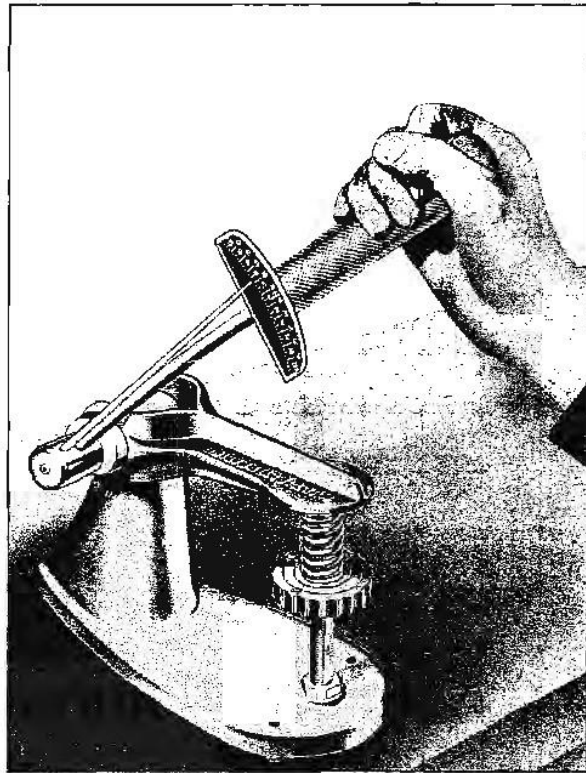

Fig. 6-32 Checking Valve Spring Tension
10. Check valve spring tension with suitable tester (Fig. 6-32).